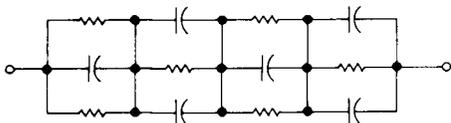
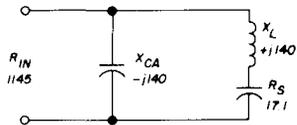

fig. 4. Realistic equivalent circuit of a resistor at high frequencies actually looks like an RC network.
fig. 5. Electrical equivalent of the series-tuned circuit in fig. 5.
At high frequencies the resistor looks like a network of resistances and capacitances according to Howe, so the resistance reduction with increasing frequency is due mainly to the shunting effect of distributed capacitance in the resistor (see fig. 4).
fig. 5. Total resistor impedance decreases with frequency. This is especially apparent with the larger values. Resistor impedance is a much more meaningful measurement than simple ac resistance.
The total impedance of a resistor with shunt capacitance appears to be a more meaningful indicator of resistor performance at high frequencies than the basic ac resistance measurement.* A comparison of the curves in fig. 5 indicates that very little difference exists between the two types of resistors at high frequencies if the basis of comparison is total impedance alone.
fig. 4. Tuning capacitor may be placed in series with the inductor (A). Equivalent reactance values are shown in (B). This circuit is electrically equivalent to circuit in fig. 5.
fixed capacitance to no more than 40 pF (see fig. 4).
impedance is $17.1 + j140$. Thus the circuit of fig. 4 may be simplified to the form shown in fig 5. This parallel resonant circuit is exactly the same result you would obtain if you reduced the standard pi-network to its most simple equivalent form.